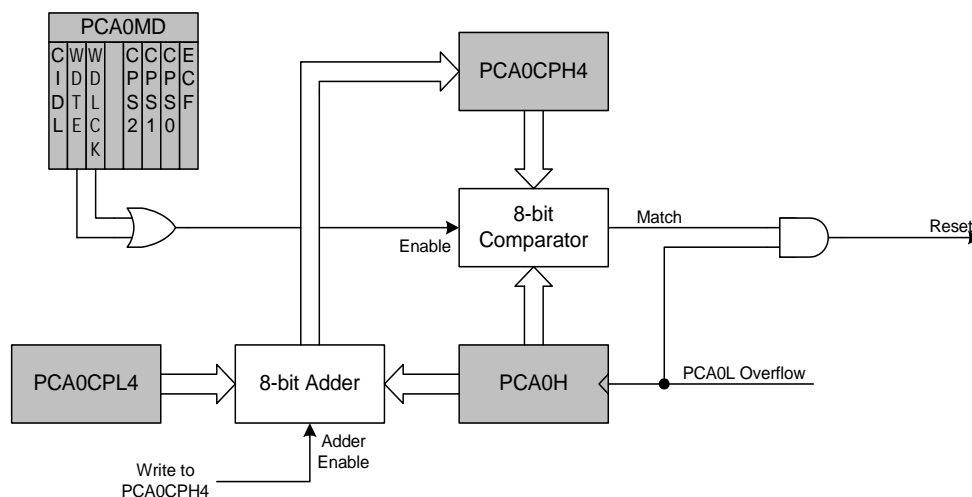

Figure 18.10. PCA Module 4 with Watchdog Timer Enabled
While the WDT is enabled, writes to the CR bit will not change the PCA counter state; the counter will run until the WDT is disabled. The PCA counter run control (CR) will read zero if the WDT is enabled but user software has not enabled the PCA counter. If a match occurs between PCA0CPH4 and PCA0H while the WDT is enabled, a reset will be generated. To prevent a WDT reset, the WDT may be updated with a write of any value to PCA0CPH4. Upon a PCA0CPH4 write, PCA0H plus the offset held in PCA0CPL4 is loaded into PCA0CPH4 (See Figure 18.10).